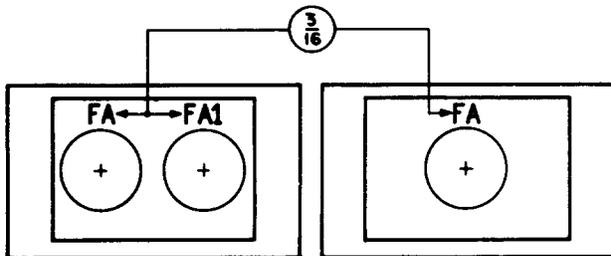

Fig. 24 - Double or Single Lamp Mounting Blocks
2.36 *Double and single lamp mounting blocks*, located in the front slanted face of the frame base, shall have the functional designations stamped, as shown in Fig. 24.